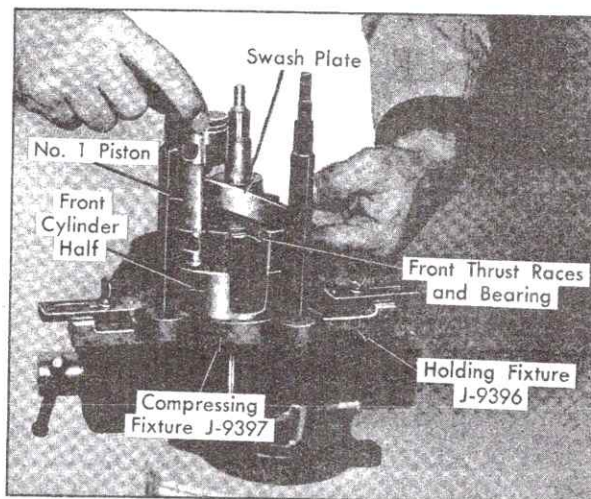

Fig. 1-57 Installing Piston
10. Position piston over #1 cylinder bore (notched end of piston on bottom and piston straddling swash plate) and lower the shaft to allow piston to drop into its bore, Fig. 1-57.